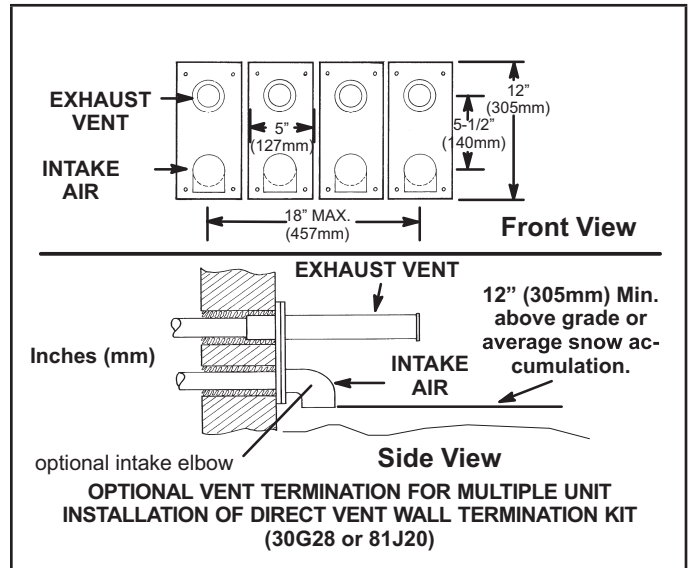

FIGURE 40
- 8 - A multiple furnace installation may use a group of up to four terminations assembled together horizontally, as shown in "FIGURE 40".